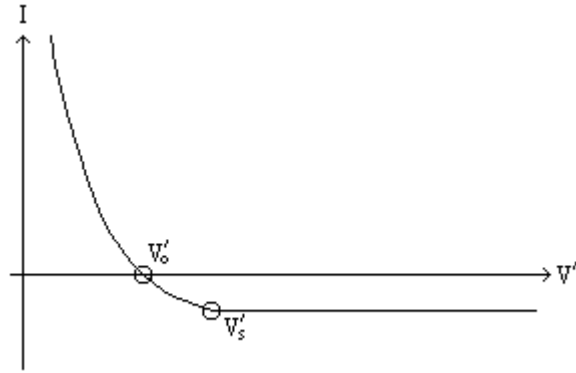

Figure 7: General form of anode current (corrected for dark current) vs. anode potential.
- By continuing to increase our applied potential  $V'$  beyond the stopping potential  $V'_o$ , the vacuum levels will eventually be aligned. For this potential  $V'_s$  and any higher potential, all electrons that escape from the cathode should be collected by the anode. This potential  $V'_s$  is called the saturation potential and is shown below in Figure 7: